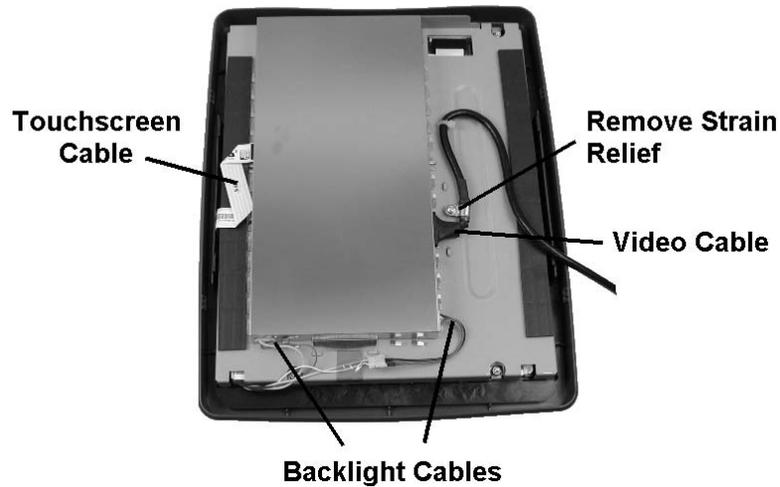

Figure 4-2: Removing Cables from the Interface Board
3. Refer to Figure 4-2. With the shield in place, remove the two backlight cables, the video cable, and the touchscreen cable.